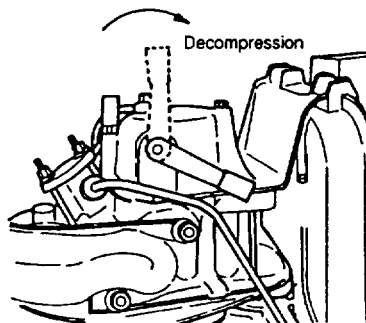

Figure 6-78 Decompression mechanism
- (1) Check bolts and nuts and flywheel rotation
- b) Turn the decompression lever in the non-compression direction. While turning the recoil starter several times, pay attention to abnormal sounds (see Figure 6-78).